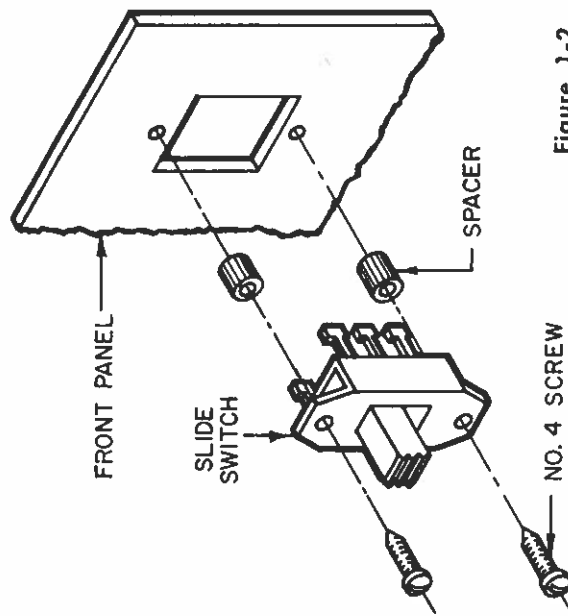

Figure 1-2
**Step 1B**  Mount the four slide switches as shown in Fig. 8 and Fig. 1-2 using the appropriate hardware. While tightening the switches in place, hold them in the approximate center of the panel hole.